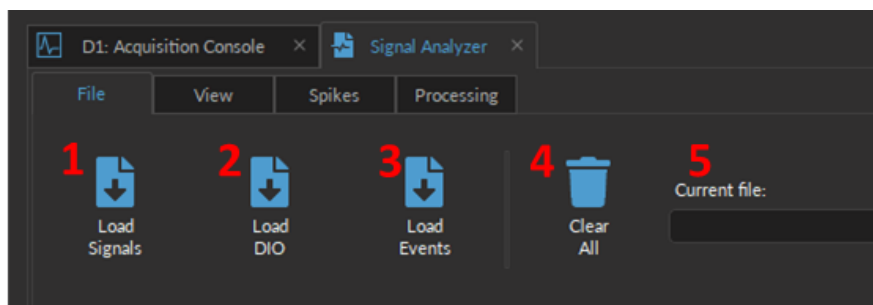
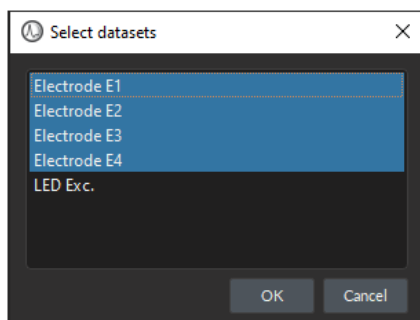
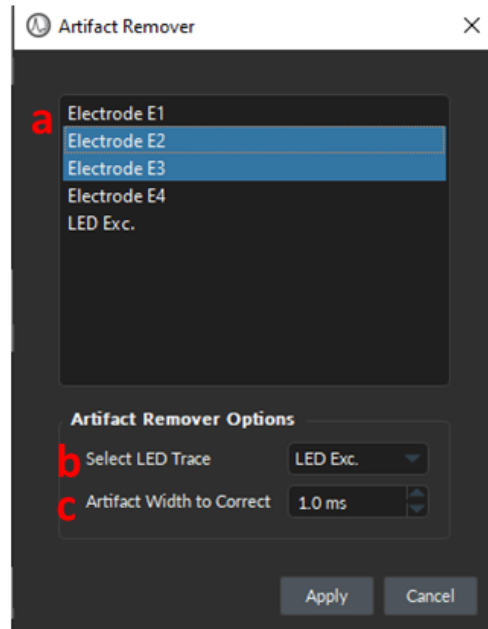

Figure 4.3: File Tab
Figure 4.4: Load selected channels
Figure 4.12: Artifact Remover Window
The **File** tab (Fig. 4.3) is primarily used to load and save the data. The following details the specific features of each button, as per Fig. 4.3:
1. The **Load Signals** button (Fig. 4.3, 1) opens a File Selection Window where users can select the *.doric* file of a previous recording and import it into the module. The file must contain both time and signal data. Once the file is selected, a second window will pop up (Fig. 4.4), allowing user to specify which channels to include for data processing. Only the selected channels will be displayed in the graph box. Multiple channels can be selected at once.
2. The **Load DIO** button (Fig. 4.3, 2) allows users to import Digital Input/Output signals from a *.doric* file into *Trace View*.
3. The **Load Events** (Fig. 4.3, 3) allows users to display **Keypress Events** from the a *.doric* file.
4. The **Clear all** button (Fig. 4.3, 4) deletes all data currently loaded in the module. This data cannot be recovered, so ensure the data is properly saved before clearing it.
5. The **Current File** box (Fig. 4.3, 5) displays the name and path of the most recent file loaded into the analysis module. If no file has been imported, the box will be blank.
1. The **Artifact Remover** button (Fig. 4.11-1) opens the **Artifact Remover** window (Fig. 4.12). This window enables users to delete any remaining LED artifacts from individual channels by finding the first "spike" (artifact) that occurs around LED onset or offset and forcing all the data points associated with the artifact to zero. To use this operation, the LED Exc. trace must be loaded into the module (using the **Load signals** button from the File Tab, see Fig. 4.3-1 and Fig. 4.4). For more information on this algorithm and the principles behind the artifacts, see section 3.4.3.1, LED Artifacts Remover).
- a) Using the electrode selector box (Fig. 4.12, a), select one or more **Electrode** channel(s) on which the artifact remover algorithm will be applied.
- b) Select the *LED Exc.* signal for the **LED trace** (Fig. 4.12, b). This should be a Digital Output signal and NOT electrophysiological data. This trace tells the algorithm when the LED was on and off so that onset and offset artifacts can be appropriately detected.
- c) Specify the **Artifact Width** (Fig. 4.12, c), which can be any value between 0.1 ms and 1 sec. However, since spikes of a neurons are on the order of 1-2 ms, we do not recommend values larger than 2 ms, as it will likely remove real spikes.